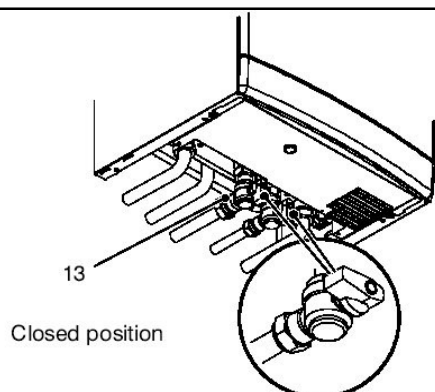

Fig. 7.56
1. Check that the gas cock (1.3 in Fig. 7.56) fitted under the boiler is turned off and the appliance is switched off at the mains isolating spur.